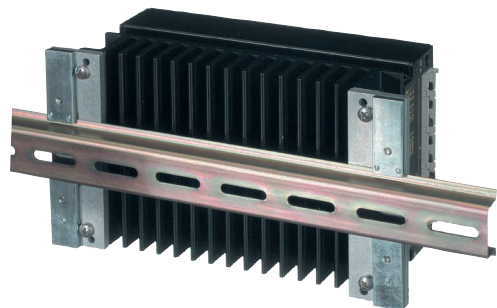

Fig. 20
- DIN-rail mounting assembly HZZ0615-G; see fig. 20